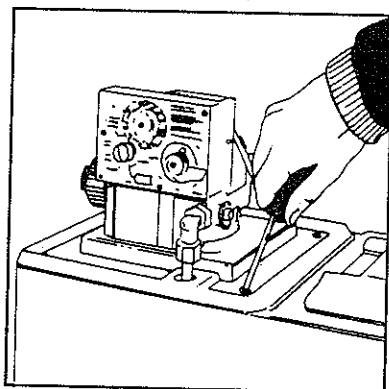

FIG. 3
1. Remove steel transit screws (Fig. 3).